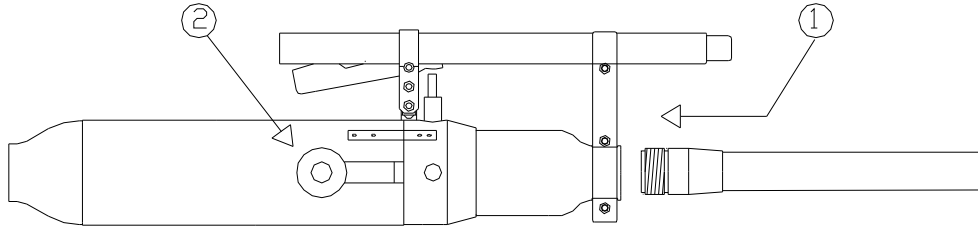

Fig 1
1. Screw the launching tube on to the base unit (fig 1,1).